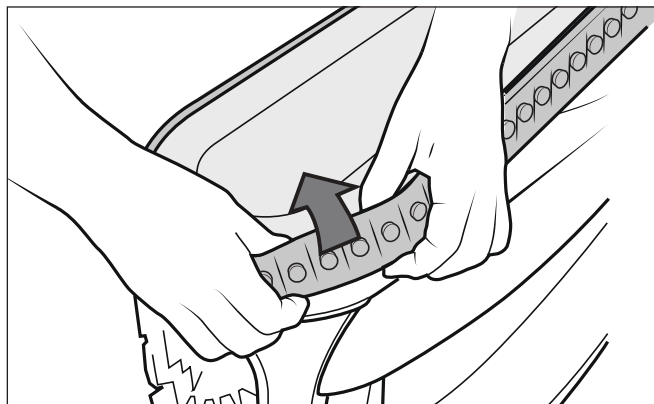

Figure 26. Remove the Old Track
2. Remove the old track from the front wheel, then remove track from the rear wheel (Figure 26).